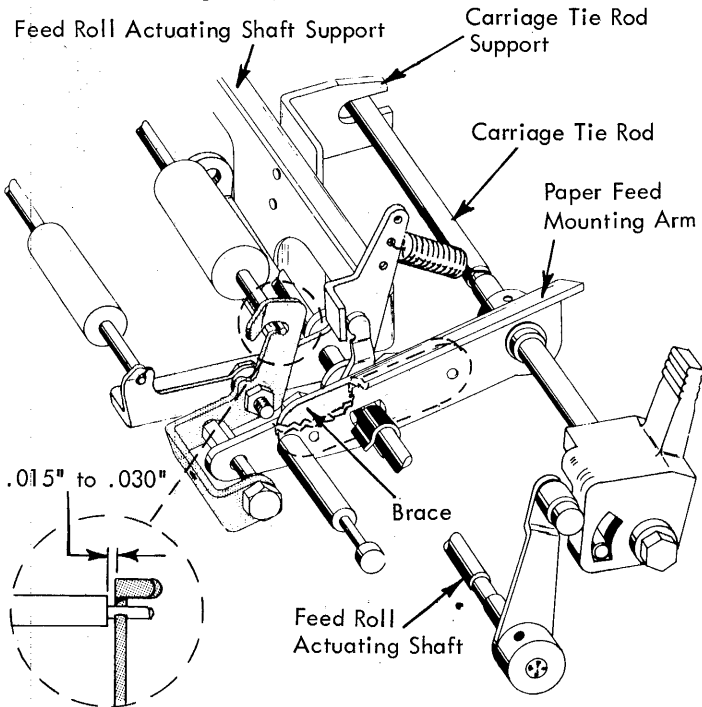

FIGURE 259. Paper Feed Mechanism
2. Paper Feed Braces (early paper feed mechanism only) With the feed roll tension springs disconnected the adjustable braces fastened to the paper feed mounting arms should be adjusted all the way forward without deflecting either the feed roll actuating shaft or the carriage tie rod (Fig. 259).
- a. Early Paper Feed Mechanism - With the feed roll tension springs disconnected, the vertical supports for the carriage tie rod and the feed roll actuating shaft should be adjusted to just touch the bottom of each shaft (Fig. 259). The feed roll actuating shaft support should be loose when the tie rod support is adjusted.
- a. Early - The right hand paper feed mounting arm on the 11 inch machine and the left and right hand paper feed mounting arms on the 15 inch machine should be adjusted to provide the rear feed roll shafts with an end play of .015" to .030" when the feed rolls are against the platen (Fig. 259).